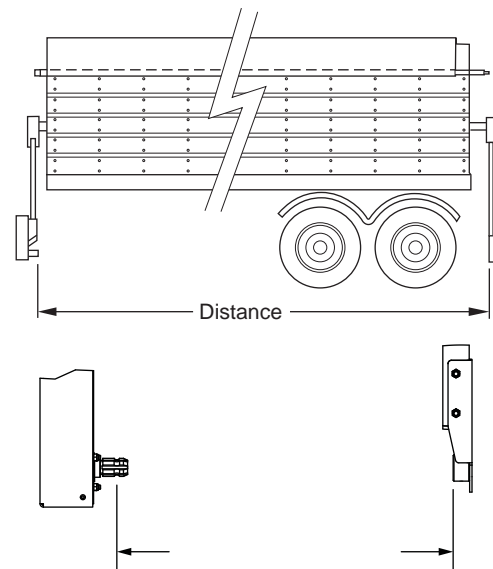

Figure 50
- 2) **See Figure 50.** Measure and note the distance between the notch in the shaft on the motor drive and the shaft bushing face on the rear swing arm.